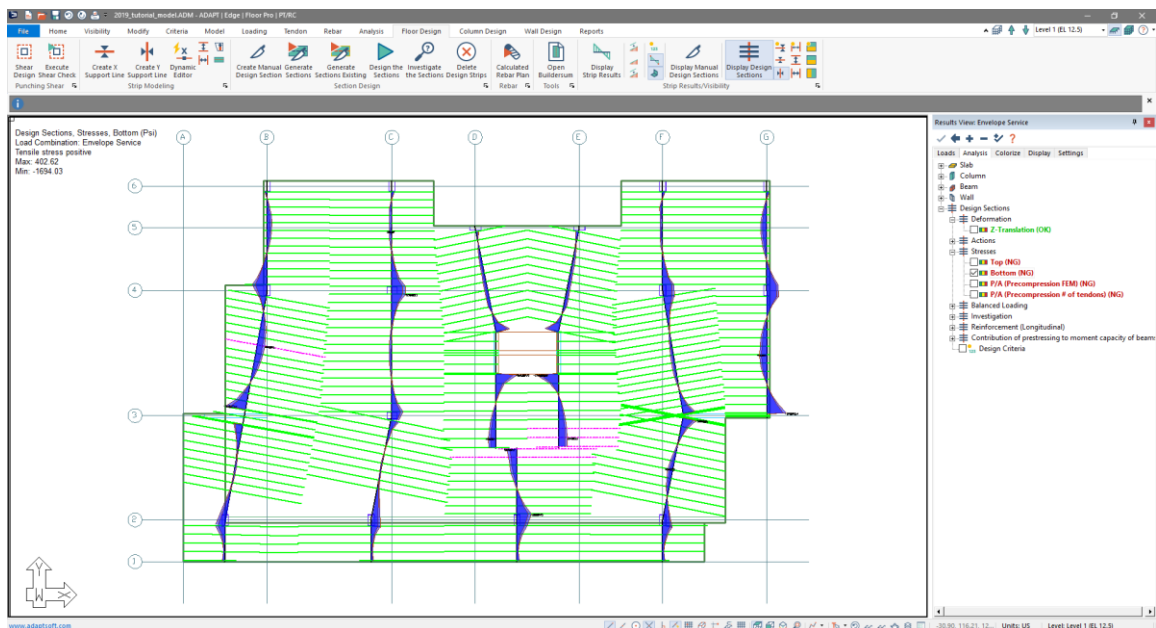

Figure 9-85
- Scroll through the tree and find *Design Sections* → *Stresses* → *Bottom* and check the box to the right. The user should now see on screen the design section results for the support lines in the Y-direction for bottom stresses as shown in **Figure 9-85**.